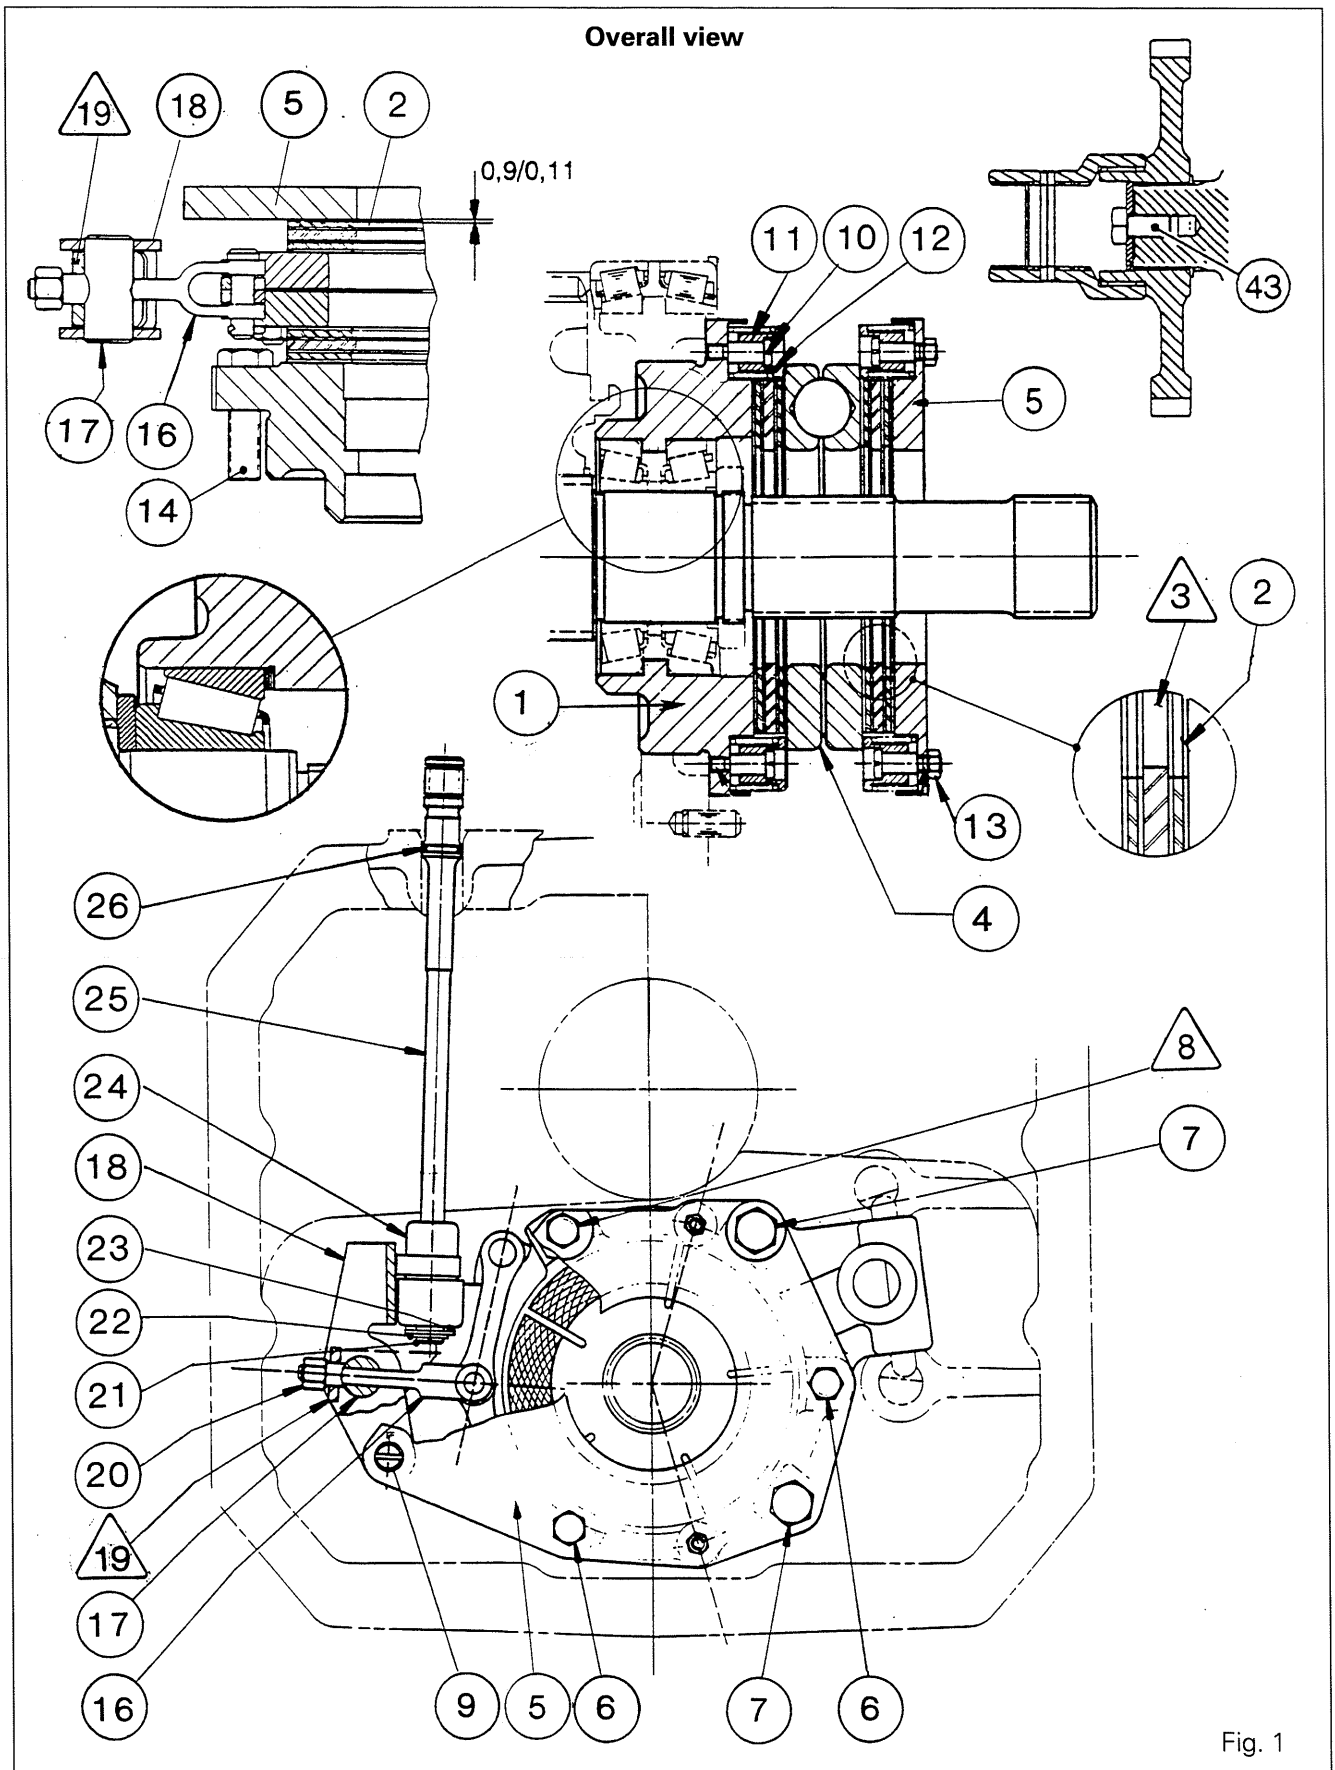

Fig. 1
- The short bolt **/8\** must be fitted in the spotface in the closing plate **(5)** (Fig. 1).
- Act on the nut **(20)** and adjust the clearance of the mechanism **(4)** by sliding a 0.5 shim on each side of the mechanism (Fig. 1) in order to obtain a total play between 0.9 and 1.1.